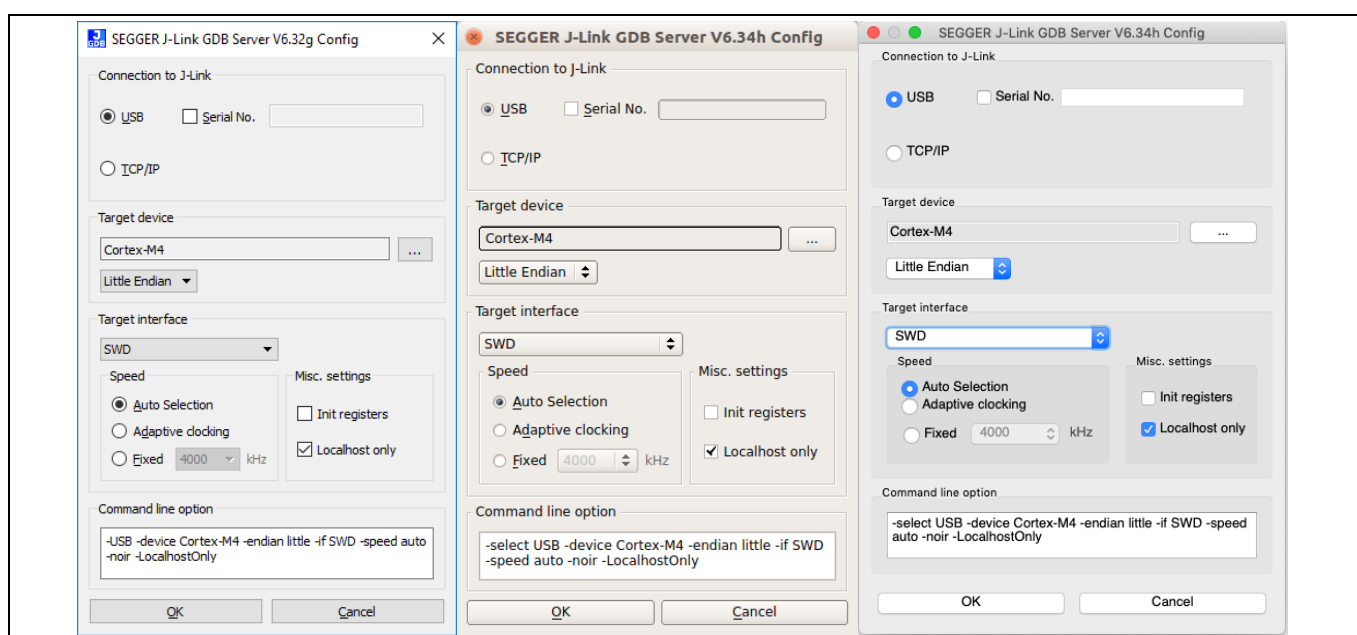

Figure 7 SEGGER GUI for Windows, Linux, and macOS
4. Run the SEGGER J-Link GDB Server program and set up as shown in Figure 7.